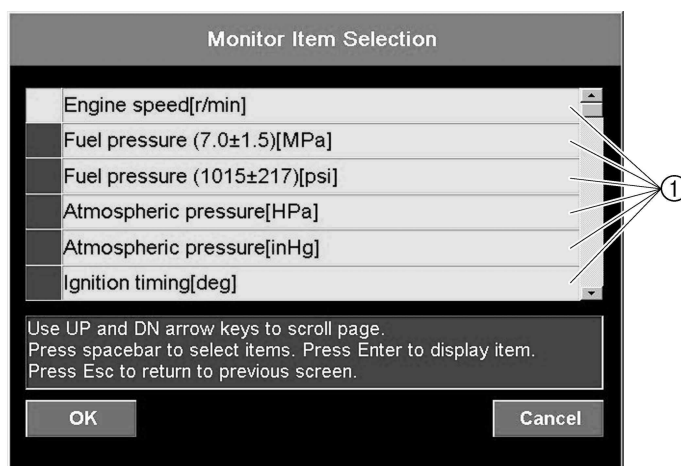

Fig. 51
3. Click the **OK** button or press the Enter key on your keyboard. The **Engine Monitor** window appears. To cancel the monitor, click the **Cancel** button or press the Esc key on your keyboard. (See fig. 51.)